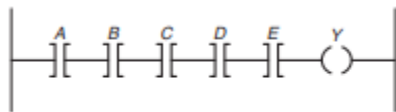

Figure 5-53 Program for Problem 5.
84. Redraw the program shown in Figure 5-53 corrected to solve the problem of too many series contacts (only four allowed).